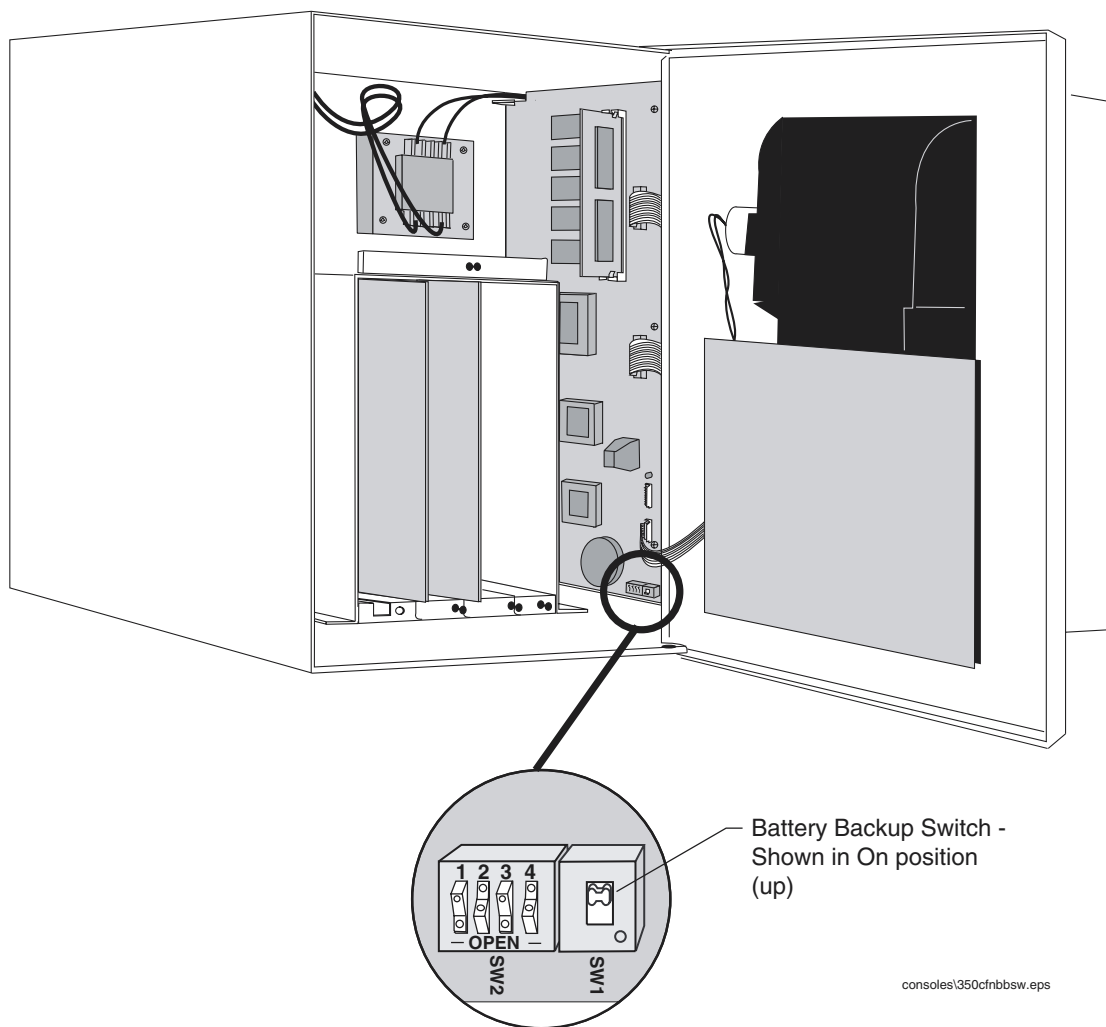

Figure 1. ECPU Board Battery Switch ON (SW1)
3. To retain current programming, be sure that the ECPU board battery switch is set to “ON” (see Figure 1 on page 4, but put in the up position). To avoid electrical shock or damage to components if accessing the battery switch, avoid touching any circuit components with your hand or any conductive tool or metallic jewelry.